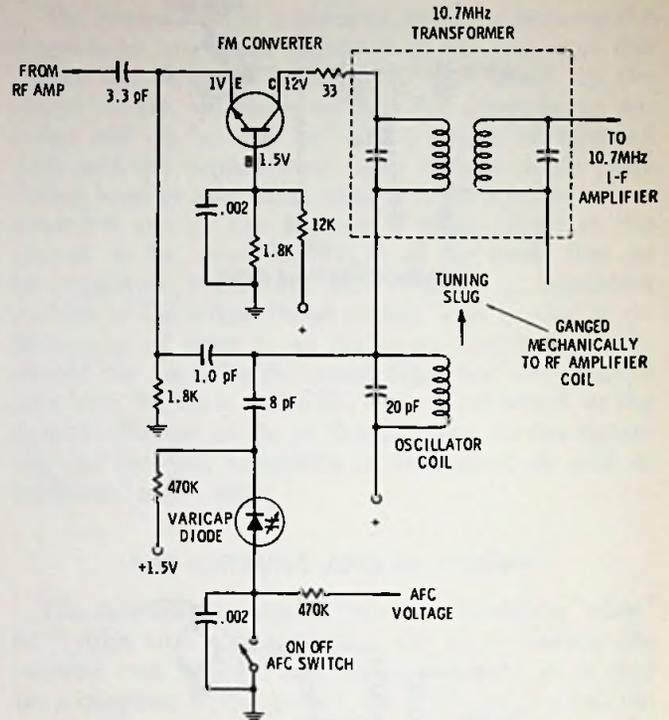
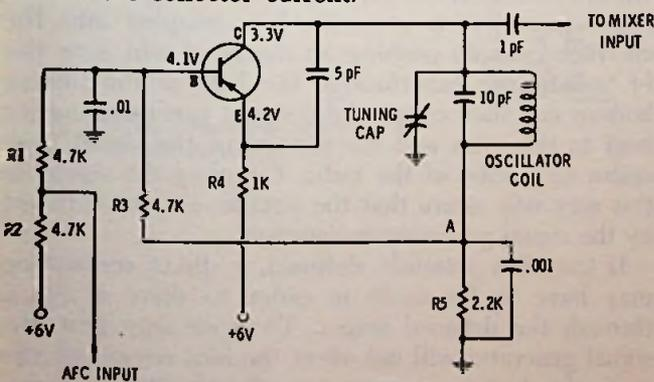

Fig. 13-4. Single transistor serving as both mixer and oscillator.
Fig. 13-5. Separate fm oscillator with afc.
The fm mixer and oscillator may use two transistors, one for each function, but many circuits use one transistor for both jobs. Fig. 13-4 is such a circuit. This is a "grounded-base" oscillator and mixer circuit. The signal from the rf stage is fed to the emitter through a 3.3-pF capacitor. The oscillator signal feedback is
Fig. 13-5 is a separate oscillator transistor. This is essentially the same oscillator circuit as in Fig. 13-4, with collector-to-emitter feedback. The base is grounded for signal by the .01- μ F capacitor. A "bias balancing" circuit (R3 and R5) helps to keep the transistor drawing appreciably the same amount of current. If the collector circuit starts to draw more current, less negative voltage (more positive) appears at point A, which in turn reduces the bias of the transistor, tending to reduce the collector current.
A little ingenuity is needed. The circuit of Fig. 13-4, for example, can be checked for base bias because the base is at ground so far as rf is concerned. If the base bias is about normal, then check the emitter voltage—the emitter circuit is "hot" so far as signal is concerned, but even if the oscillator is detuned, the transistor should still be drawing current because of the base bias. Also, if you use a vtvm or solid-state vom that uses an isolation resistor at the probe tip, then you can measure this voltage without serious detuning of the oscillator.
In Fig. 13-5, an ideal place to check transistor current without upsetting the signal circuit is at point (A). A test probe with an isolation resistor can measure the voltage at the emitter without appreciable effect on the circuit. But even with considerable effect, the transistor must draw current and should indicate approximately the right voltage, perhaps a bit high, at any of the transistor elements.